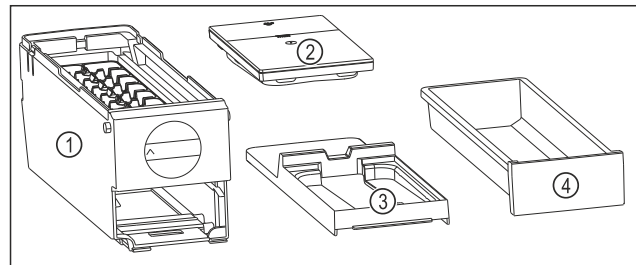

Fig. 126 Components of the EasyTwist-Ice
- ▷ EasyTwist-Ice is disassembled in four parts. (see Fig. 126)
- ▶ Only disassemble the EasyTwist-Ice into the illustrated components. (see Fig. 126)
- ▶ Clean the EasyTwist-Ice body Fig. 126 (1) as a complete unit.